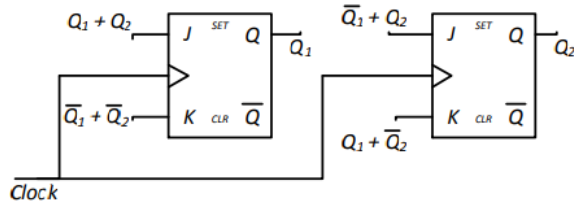

Fig. 5.32
33. A 2-bit synchronous counter using two J-K flip flops is shown in Fig. 5.32. The expressions for the inputs to the J-K flip flops are also shown in the figure. The output sequence of the counter starting from  $Q_1 Q_2 = 00$  is